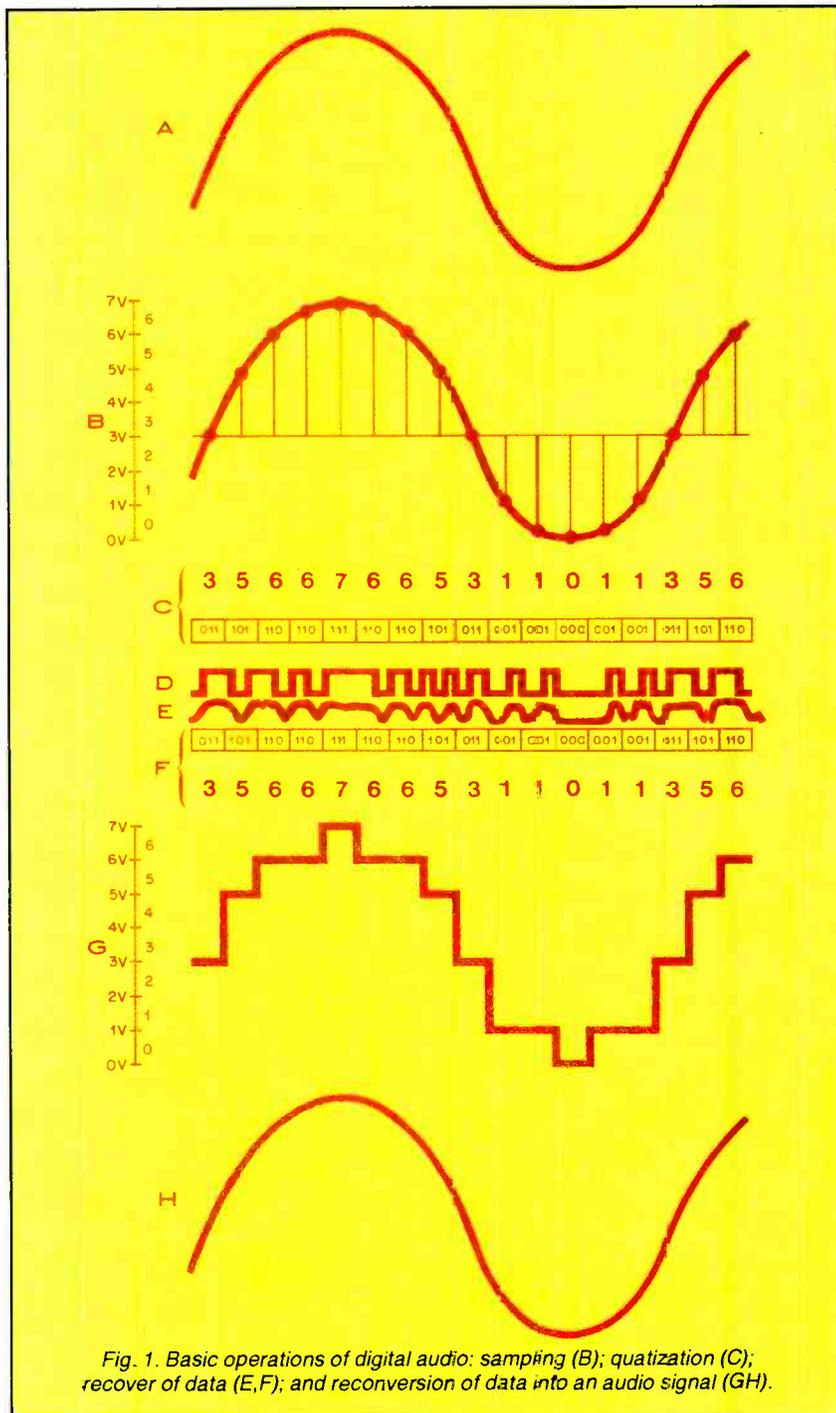

Fig. 1. Basic operations of digital audio: sampling (B); quantization (C); recover of data (E,F); and reconversion of data into an audio signal (GH).
**Digital Audio Basics.** A digital-audio recording/playback system converts a smoothly changing, analog waveform into a series of binary numbers describing the waveform, records those numbers as pulses on a suitable medium (magnetic tape or the master disc for Compact Disc pressings), plays back those pulses, converts them into numbers, and finally reconverts the numbers into a smoothly varying analog waveform (Fig. 1). How can such a system provide the high audio quality claimed by advocates of digital audio? After all, typical Compact Disc player specifications claim a dynamic range of more than 90 dB, flat ( $\pm 0.2$  dB) frequency response to 20,000 Hz, distortion of less than 0.01%, and *no wow or flutter*.